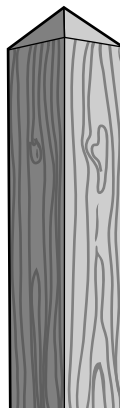

Fig. 2
- (b) Fig. 2 shows a wooden bollard.